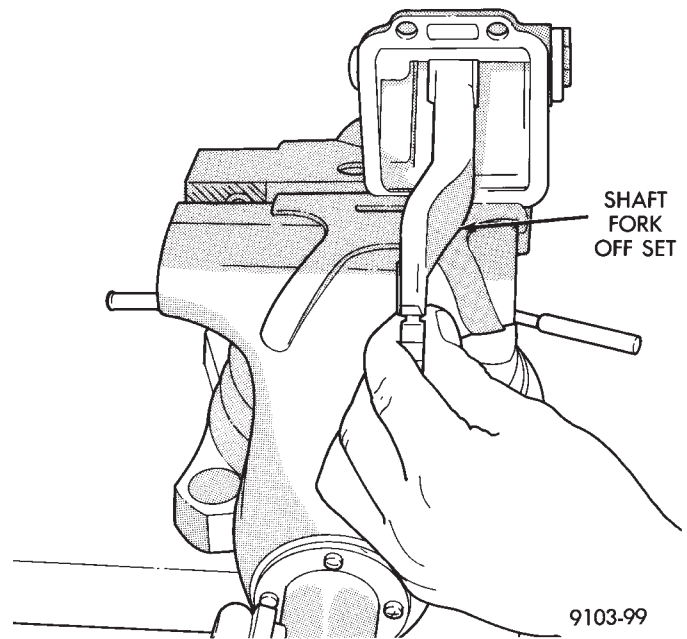

Fig. 5 Shift Fork Position
- (1) Slide vacuum shift motor into housing and through shift fork. Shift fork off set must be angle away from vacuum motor (Fig. 5).
- (2) Install two E-clips. One onto vacuum shift motor shaft and one on the vacuum motor bushing.
- (3) Apply Mopar® Gasket Maker, Loctite Gasket Eliminator or equivalent and reinstall cover. When